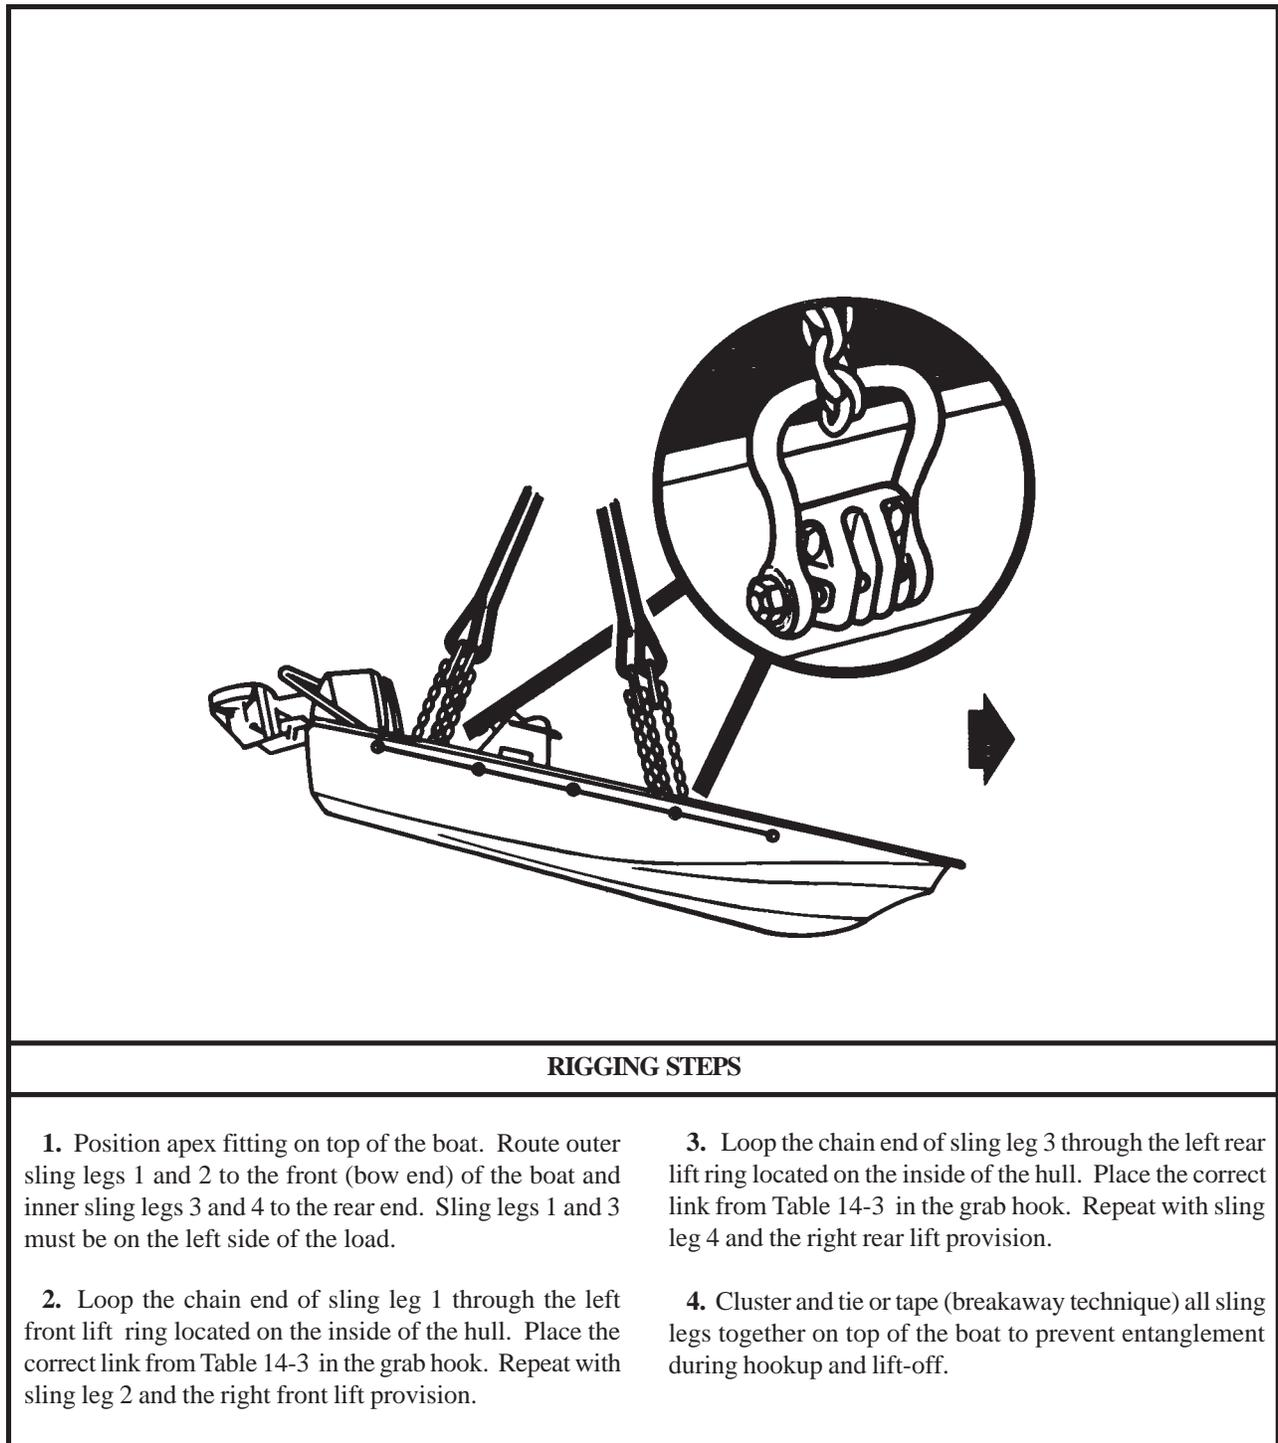

Figure 14-3. Rigid Raiding Craft
(2) **Rigging.** Rig the load according to the steps in Figure 14-3.
(4) **Derigging.** Derigging is the reverse of the preparation and rigging procedures in steps d (1) and d (2).